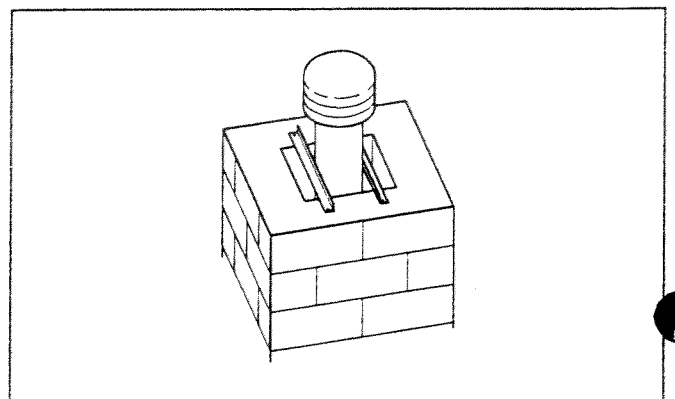

Figure 10. Supporting Type B Vent Liner.
**WARNING:** Provide support when using a Type B vent liner in masonry chimney. Maintain at least a 1 inch clearance on all sides to reduce possibility of condensate in vent. Condensate may cause vent to deteriorate allowing combustion products to collect in building, which could result in injury or death. See Figure 10.